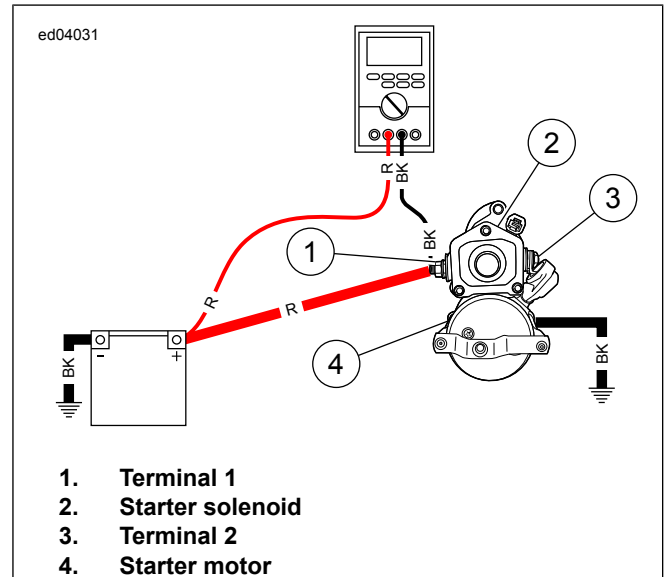

Figure 1-15. To Starter Solenoid Battery Terminal
2. See Figure 1-15. Move black meter lead to terminal 1 on starter solenoid. Crank starter. Observe voltage drop.